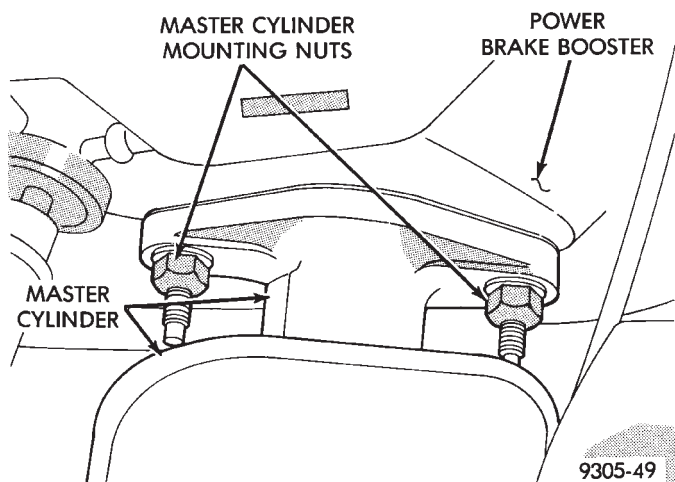

Fig. 3 Master Cylinder Mounting
(1) Disconnect primary and secondary brake tubes from master cylinder housing. Install plugs at brake tube outlets.
(2) Remove 2 nuts (Fig. 3) attaching master cylinder housing to power brake booster unit.